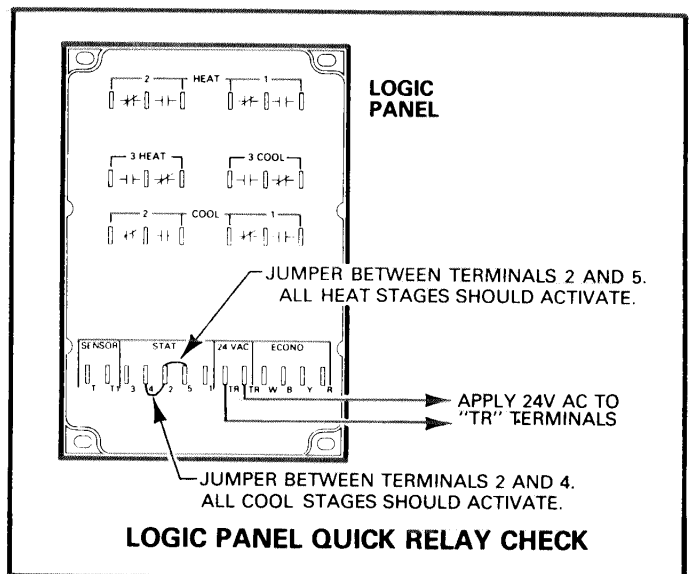

FIGURE 25
- 2 - Connect jumper from terminals 2 to 5. See Figure 25. All heat stages should activate.